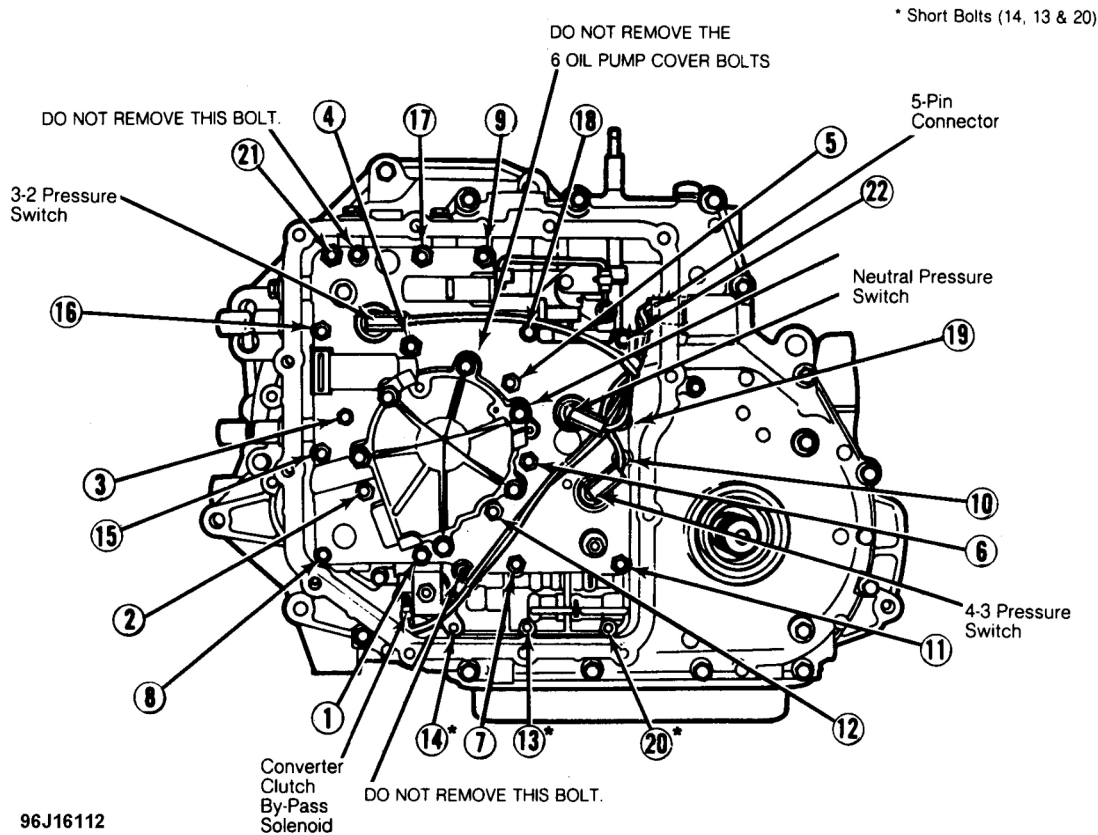

Fig. 4: Oil Pump & Valve Body Bolt Removal & Installation
3. Loosen valve body cover bolts and drain fluid. Remove cover and gasket. Remove 22 pump and valve body assembly-to-chain cover bolts. See **Fig. 4**.
3. Use Valve Body Alignment Pin (T86P-70100-C) to position valve body. Install bolts and tighten in sequence shown. See **Fig. 4**.
2. Use Valve Body Alignment Pin (T86P-70100-C) to position valve body. Install bolts and tighten in sequence shown. See **Fig. 4** . **DO NOT** use bolts to draw pump and valve body into position. Install cover using a new gasket. To complete installation, reverse removal procedure.